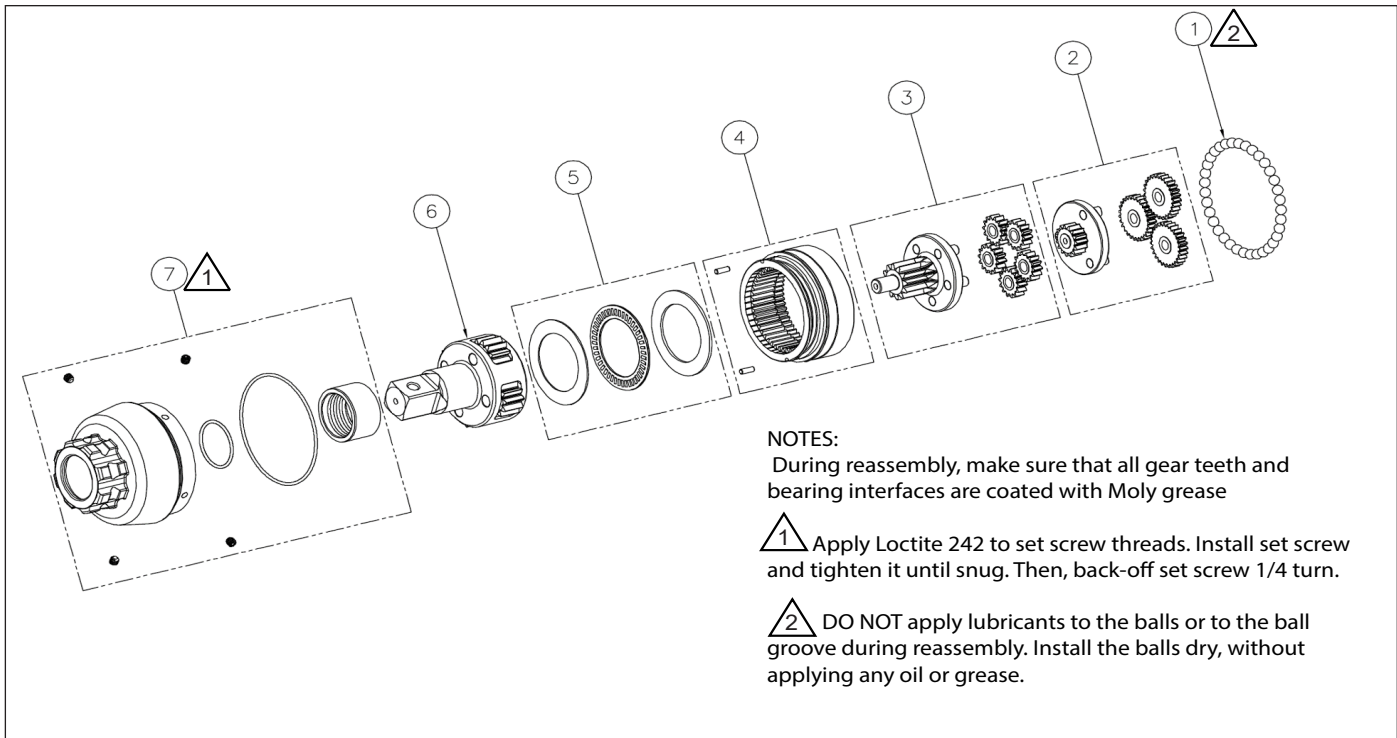

Figure 7: TW500SR Gearbox Assembly
9.3.1 Table of Parts (Figure 7)